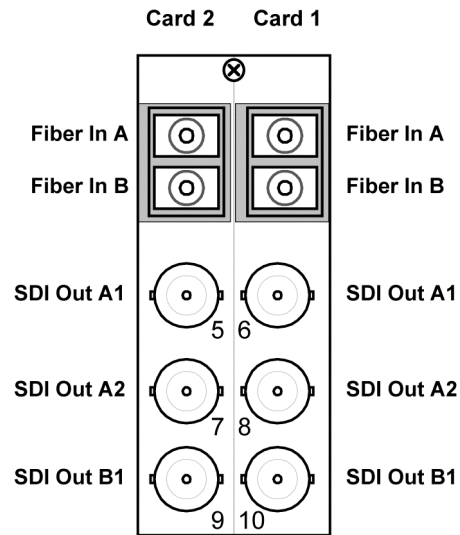

Figure 2.6 Cable Connections for the **RM20-9213-B/S** Rear Module
- **RM20-9213-B/S Split Rear Module** — Each 9213-2OE occupies one slot and provides two optical inputs, and three SDI outputs. **Figure 2.6**